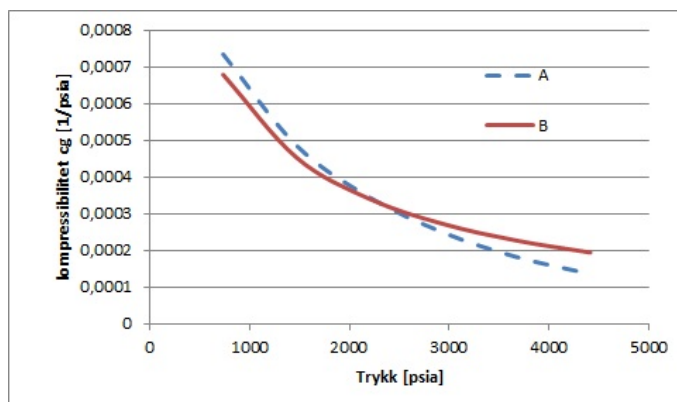

Figure 3
5. Figure 3 shows the compressibility factors for a real gas and an ideal gas. Identify (and explain) which gas is real and which is ideal.